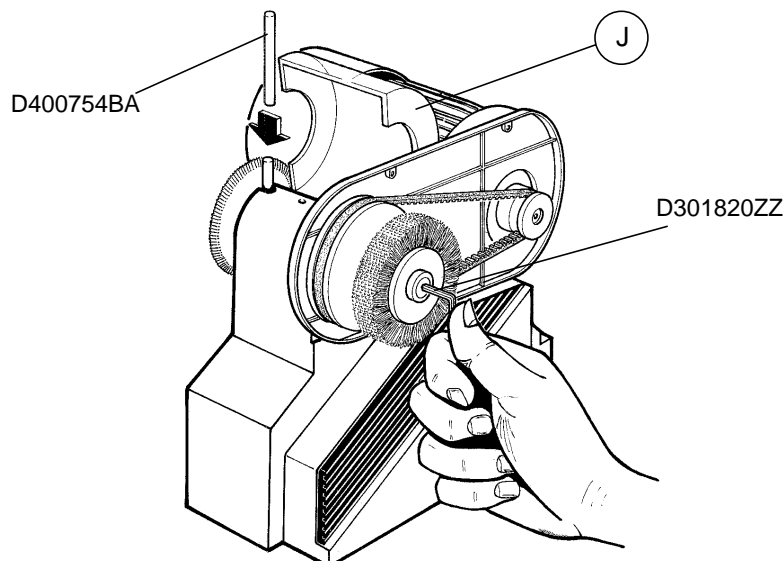

Fig. 10
- 2) Raise the cutter shield (J) and insert the locking bar (#D400754BA) into the groove in the base and the hole in the cutter shaft as shown in fig. 10.